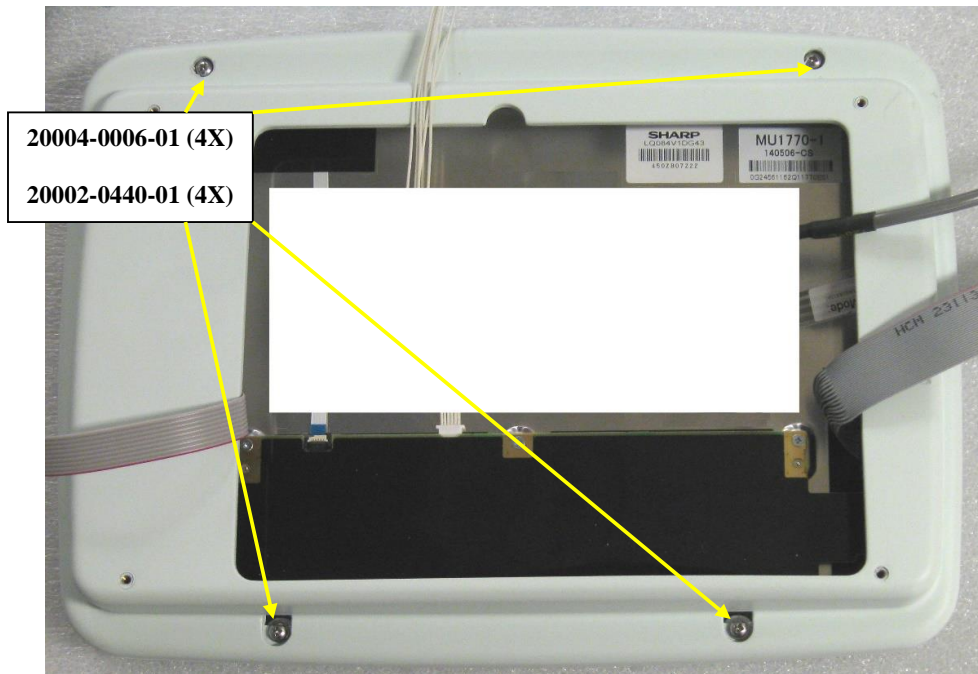

Figure 37
- 13.13. Place the Molded Bezel (40000-0445-01) onto the Frame using four (4) 4-40x $\frac{3}{8}$ " Pan Head Screws (20004-0006-01) and four (4) #4 Lockwashers (20002-0440-01) as shown in Figure 37. Torque the Screws to 5 inch pounds using a torque driver.